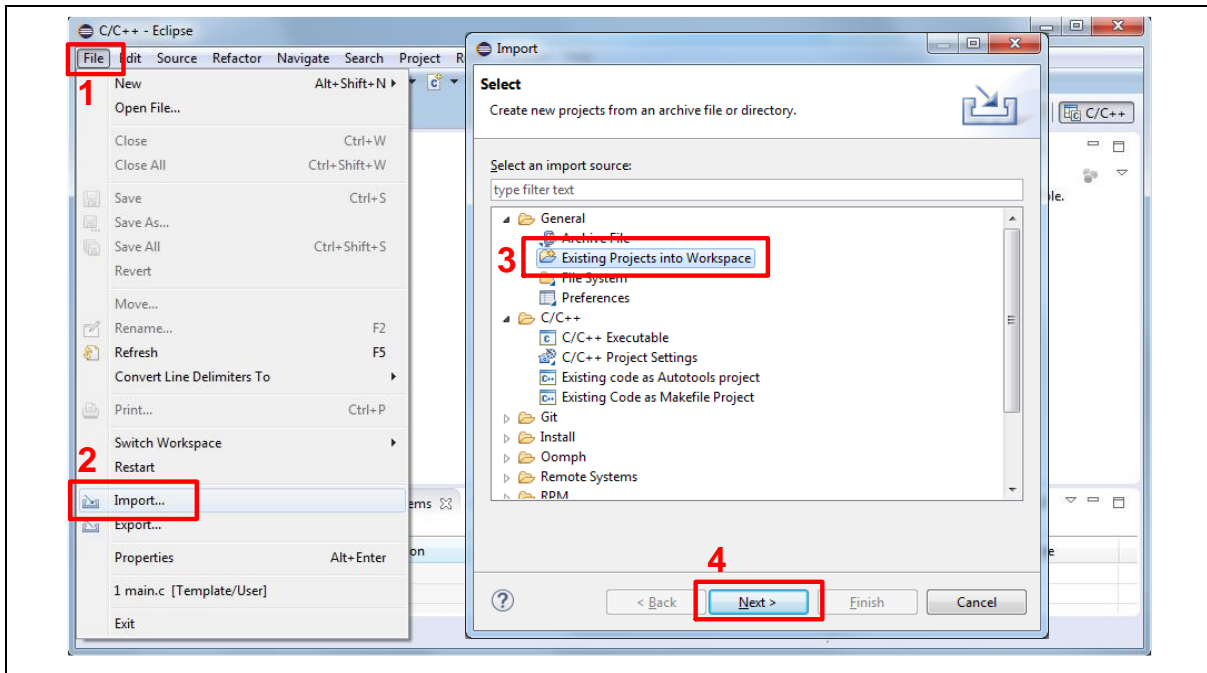
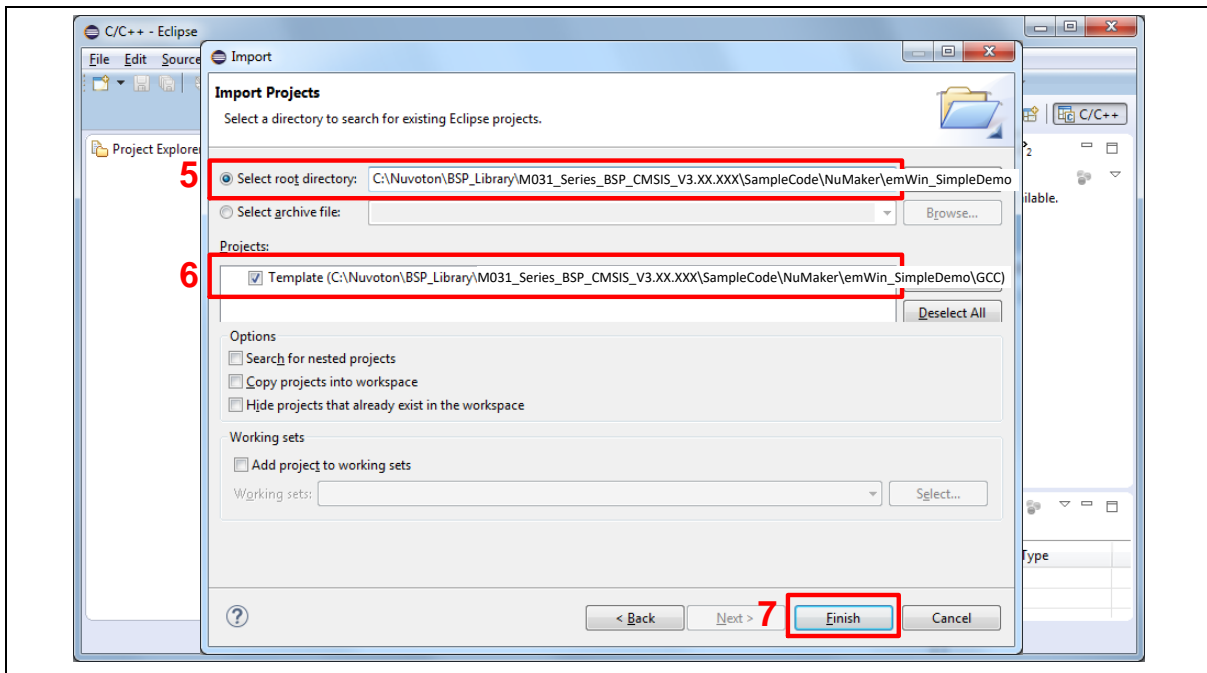

Figure 4-19 Import the Project in NuEclipse
Figure 4-20 Import Projects Windows
2. Import the “emWin\_SimpleDemo” project by following the steps presented in Figure 4-19 and Figure 4-20.